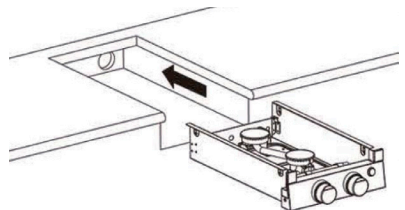

FIG. 3
3. Slide the cooktop into the cabinet opening. Verify the cooktop is level from side to side and front to rear. (Fig. 3)